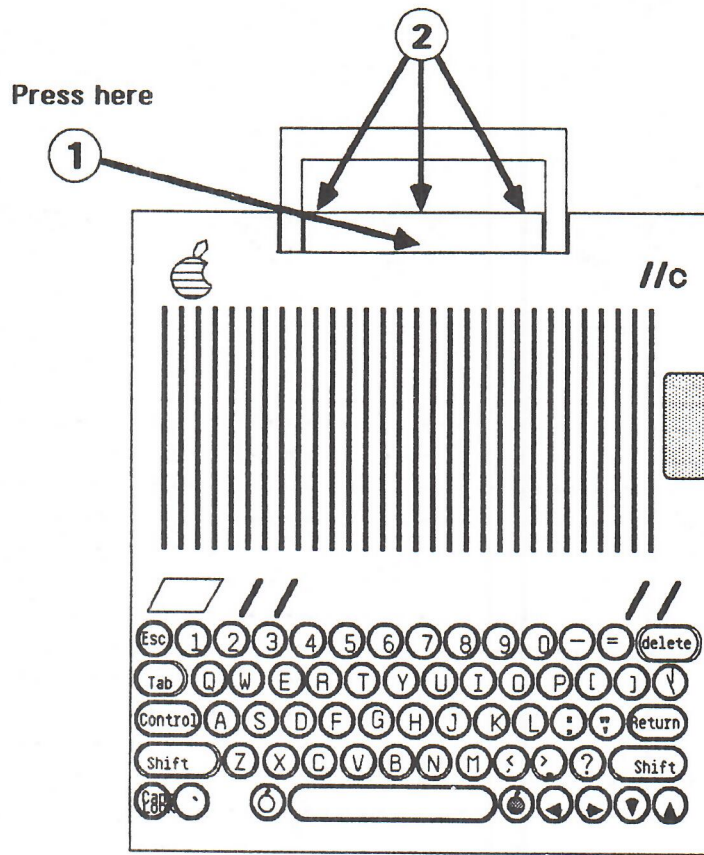
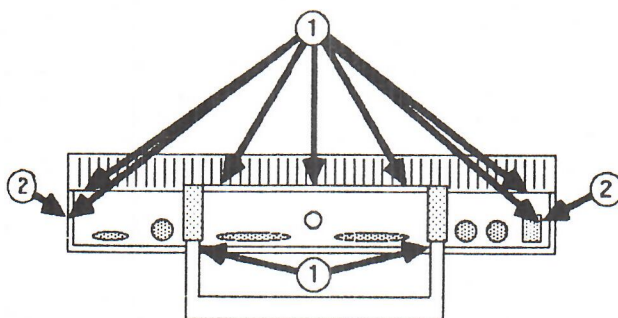
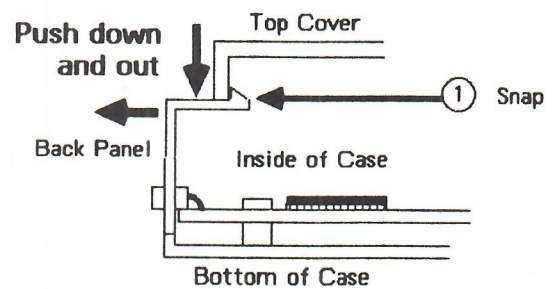

FIGURE 1
FIGURE 2
FIGURE 3
The IIC cover has been manufactured in two styles. The first is a two-piece design comprised of the **top cover** (see Figure 1) and the **back panel** (see Figure 2). The second is a single-piece with the top cover and back panel permanently attached to each other.
You must remove the back panel before you remove the top cover. The panel is held on by nine plastic snaps: two at the sides, two on the bottom edge, and five on the top edge. For the positions of the snaps, see Figure 2, #1. Figure 3 shows how the snaps hook onto the case. Follow the directions below to carefully remove the back panel. **NOTE:** Don't worry about breaking the panel: it is flexible. If one or two of the snaps break off, the panel is still usable.
2. Push the handle into carrying position, as in Figure 1.
- b) Grasp the back of the IIC so that your thumbs meet on the top center of the back panel, just above the video connector (see Figure 1, #1).
- c) Push down and out with your thumbs while gripping the bottom of the case with your fingers, so that the back panel flexes and the three central snaps come free (see Figure 1, #1 and #2).
- d) If necessary, use a small (jeweler's) flatblade screwdriver to CAREFULLY free the sides of the back panel at the two locations in Figure 2, #2.